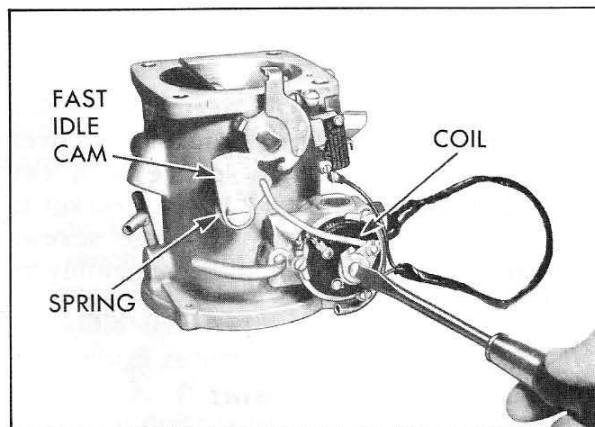

Fig. 28 Installing Cold Enrichment Coil
4. Place fast idle cam return spring on air meter boss with the spring leg away from the cold enrichment housing, Fig. 28.